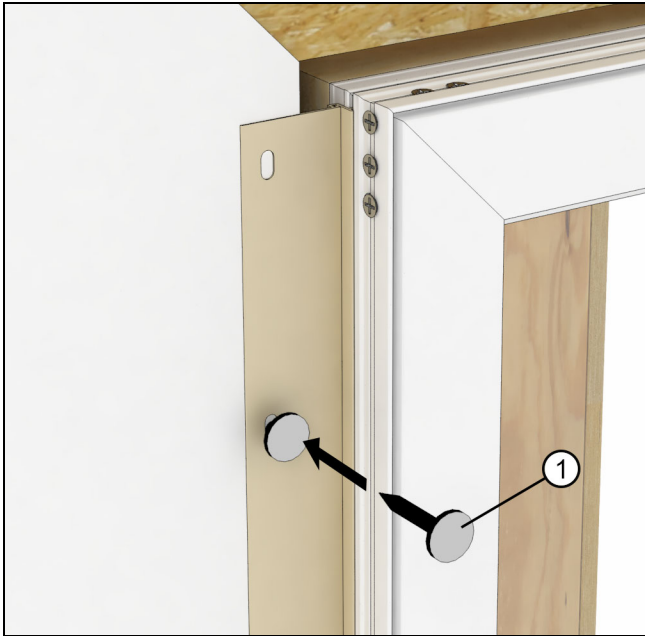

Figure 36
3. Temporarily fasten the unit into the RO by tacking the nailing fin with a 2" roofing nail. See Figure 36.